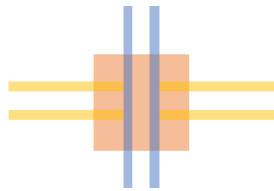

Figure 5. Cross base
Now, a Cross Base shape must be built, see Figure 5 below.
5. Lay 2 wood pieces of 12 cm on top of the slat and align them parallel to the previous 2 wood pieces of 30 cm, as shown in Figure 5.